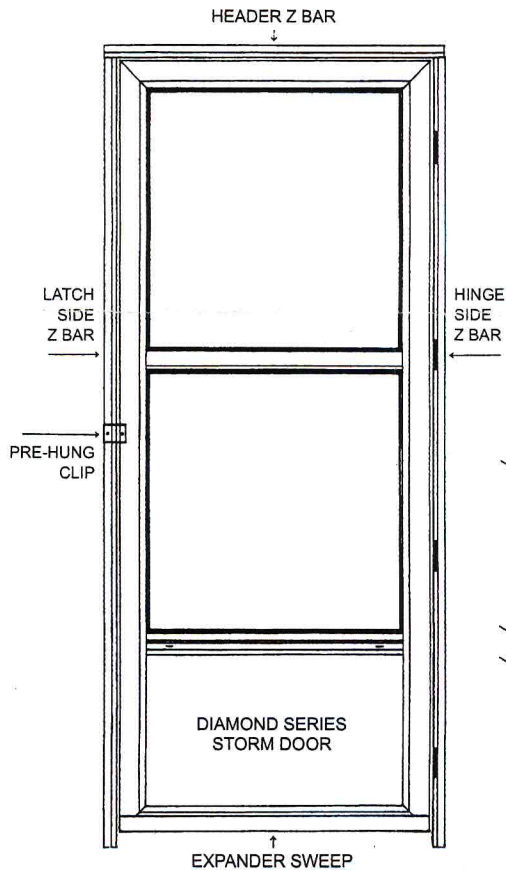

Figure 1
1. Remove Banding and Cardboard from around the Diamond Series Storm Door. (Fig. 1)